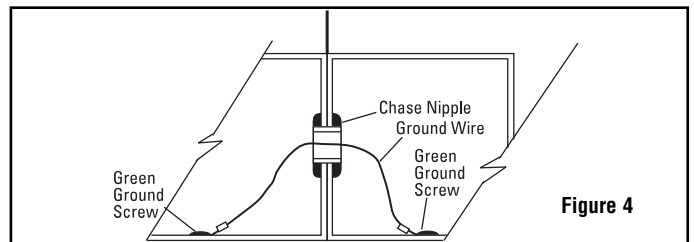

Figure 4
2. Run a ground jumper from the ground screw in one terminal box to the ground screw in the adjacent terminal box. (See Figure 4.)